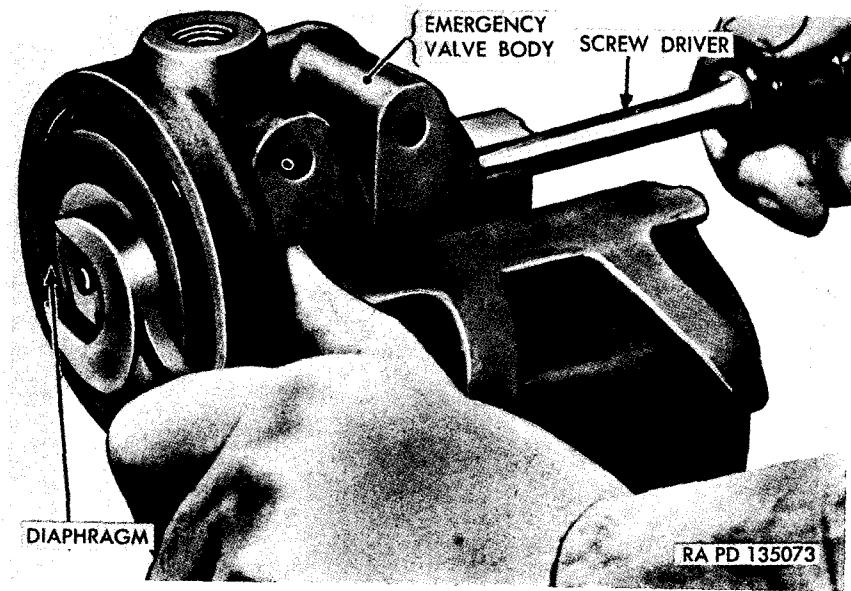

Figure 151. Installing emergency diaphragm.
- (a) Position emergency valve in emergency valve body. Place diaphragm support on stem of emergency valve. Place emergency diaphragm spring and spring seat in position and install emergency diaphragm, washer, and nut on stem of emergency valve. Hold stem of emergency valve from turning with a screw driver (fig. 151) and tighten nut sufficiently to prevent leakage. Do not tighten nut sufficiently to distort the diaphragm. Install emergency valve cap nut. Tighten securely.